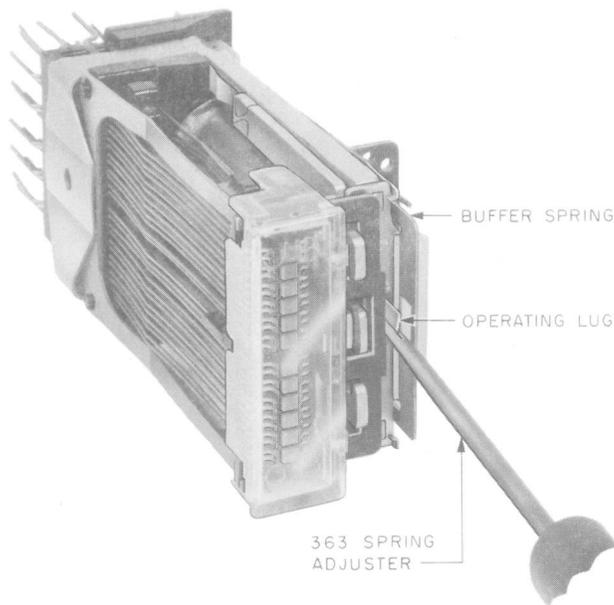

Fig. 19—Method of Positioning Buffer Spring
(1) If a relay on which the use of a buffer spring is permitted by the circuit requirements table (see 1.20) is not equipped with a buffer spring but a buffer spring is required to meet the electrical release requirements, mount a P-16A279 (0.012-inch thick) buffer spring as covered in Section 040-502-801. Position the buffer spring as covered in (3) and adjust the tension as covered in (4). If the 0.012-inch thick buffer spring is inadequate to meet the electrical timing requirements, substitute a P-16A070 (0.016-inch thick) buffer spring and adjust the position as covered in (3) and (4).
(2) If the relay is equipped with a buffer spring but the buffer spring is not positioned properly or if the buffer spring has not been used previously but is now required, position it as covered in (3). Then adjust its tension as covered in (4).
(3) Place the 363 spring adjuster on the operating lug of the buffer spring so that the middle of the lug is in the slot of the adjuster as shown in Fig. 19. Bend the lug as required. Exercise care not to adjust the lug more than necessary since repeated adjustments may injure the lug.